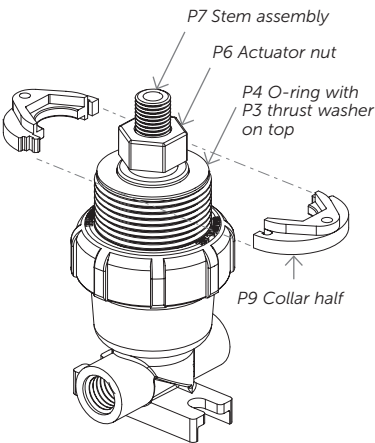

Figure 5.
13. Install collar halves (P9) onto the stem as shown in Figure 5.